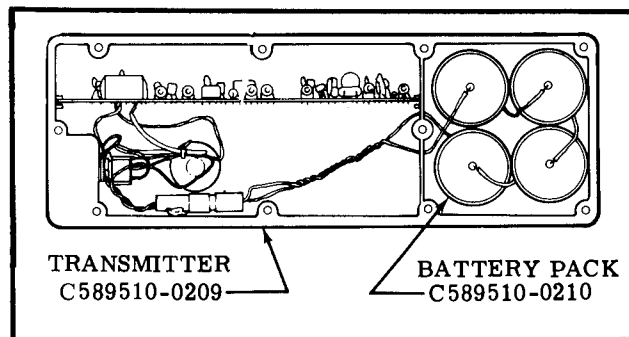

Figure 16-14. Lithium 4 Cell Battery Pack Installations
**16-94. REMOVAL AND INSTALLATION OF LITHIUM FOUR (4) CELL BATTERY-PACK.** (Refer to figure 16-14.)
- d. Place new battery-pack in the transmitter with four batteries as shown in the case in figure 16-14.
- e. Connect the electrical connector as shown in figure 16-14.